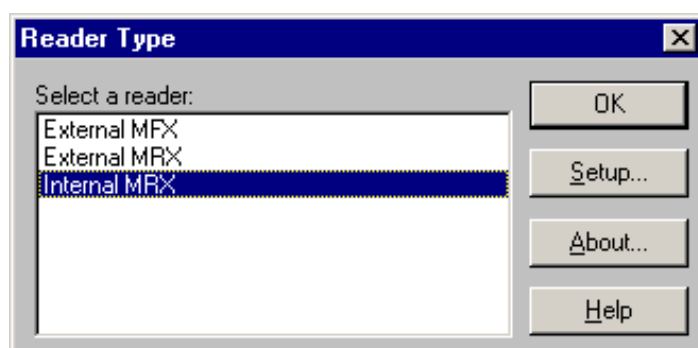

Figure A-3 The Configure Reader Dialog Box
- 5 Select **Configure Reader** on the *Utility* drop down box to present the *Configure Reader* dialog box (Figure A-3).